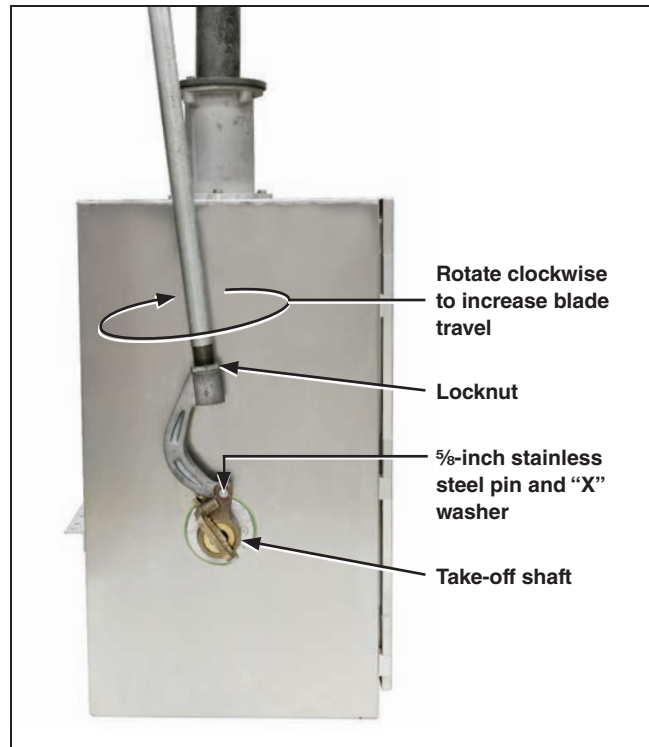

Figure 25. The rear of switch operator.
- Attach the “C”-shaped clevis at the lower end of the vertical-operating-pipe assembly to the take-off shaft on the rear of the operator using a ⅝-inch stainless steel pin and stainless steel “X” washer furnished. See Figure 25.
If necessary, loosen the locknuts at the top and bottom of the vertical operating pipe, and rotate the pipe *counterclockwise* (as viewed from the top) to increase blade travel. Tighten the locknuts. See Figure 25 on page 24.
If the disconnect blades are not open to this extent, loosen the locknuts at the top and bottom of the vertical operating pipe and rotate the pipe clockwise (as viewed from the top) to increase blade travel, and tighten the locknuts. See Figure 25 on page 24.